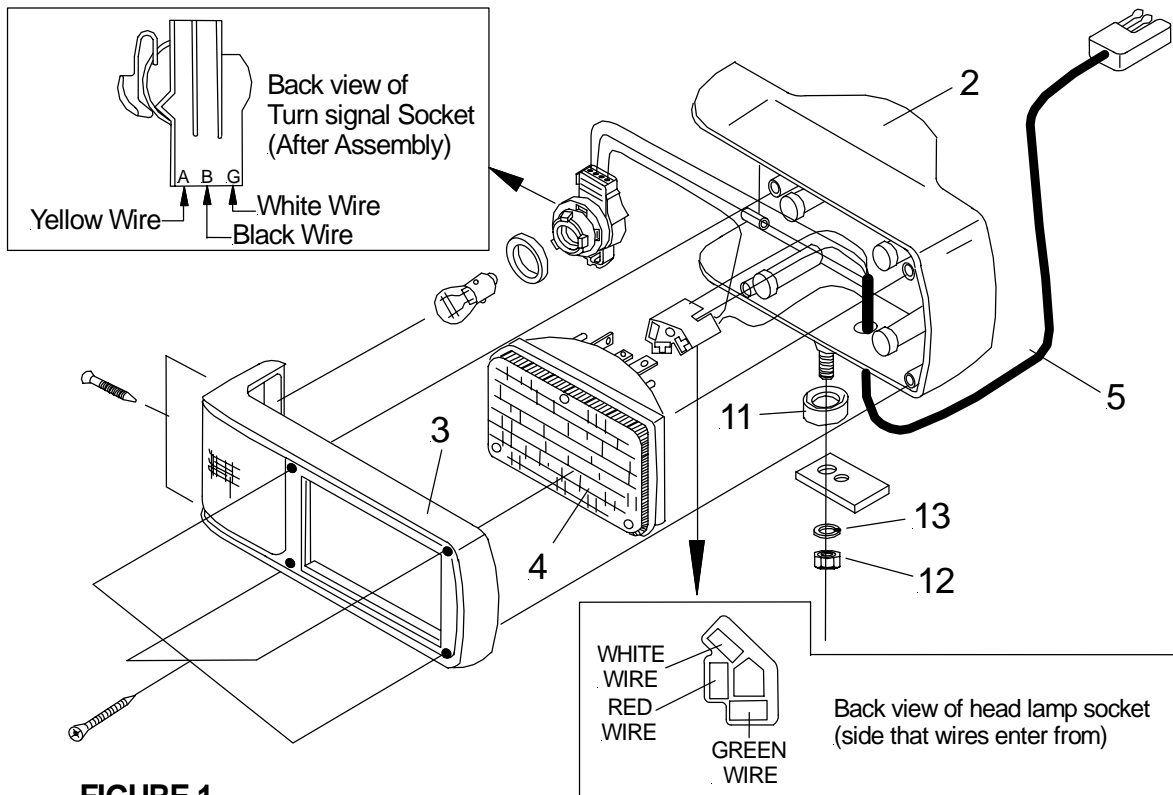

FIGURE 1
9. Refer to Figure 1 for replacement of Light Harness (5) and Housings (2). Replacement of the harness requires removing the head light socket and turn signal socket from the old harness and installing on the new harness. The details in Fig. 1 show the color codes for reassembling the two sockets to the harness.